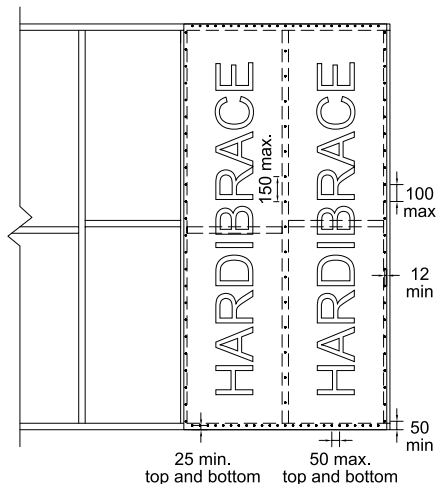

Figure 2: Type B Nailing Detail
To achieve Type B bracing capacity (6kN/900mm), fix the HardiBrace™ Sheet Bracing in accordance with Figure 2, Section 5 and Clause 2.2.5 of this manual.
- To achieve **Type B** bracing capacities with 6mm JHFC sheets as defined at Clause 1.2 of this manual, fix sheets in accordance with Figure 2, Section 5 and Clause 2.2.5 of this manual.
HardiBrace™ Sheet Bracing fixed with close-nailed pattern (see Figure 2)	6.6
6mm JHFC sheets, single-sided, fixed vertically as per close nailed HardiBrace™ Sheet Bracing (see Figure 2)	6.6